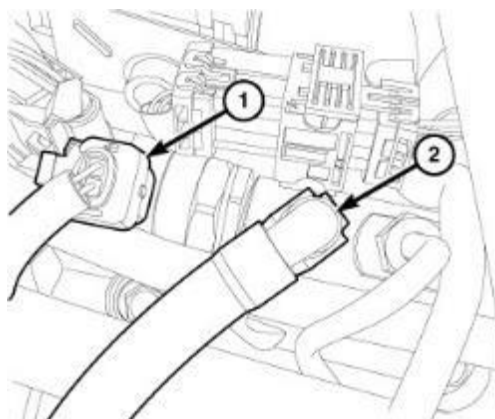

Figure 29 – Harness Connector and Return Line
- 13. Disconnect the fuel pressure solenoid wire harness connector (1) (Figure 29).
- 14. Disconnect the fuel rail return line (2) and position aside (Figure 29).